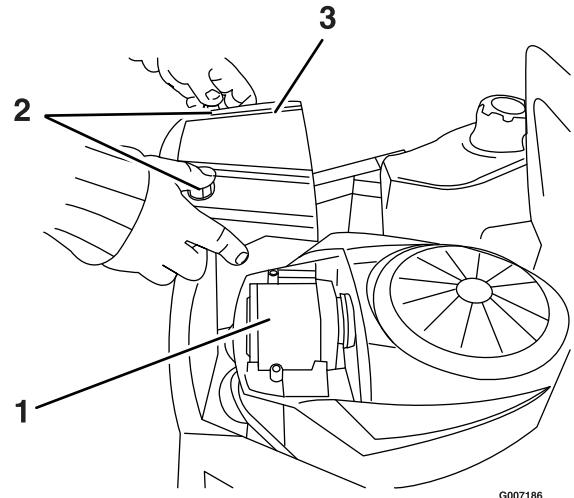

Figure 20
1. Remove the air cleaner cover (Figure 20).